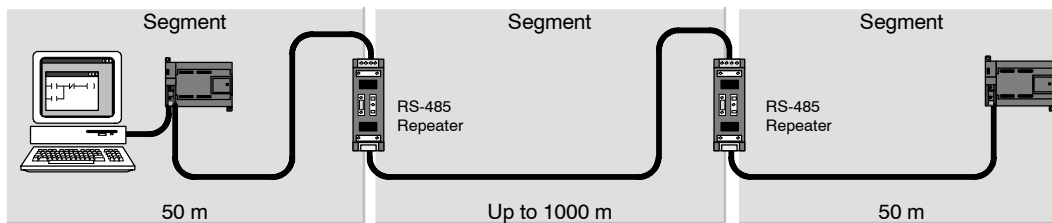

Figure 7-21 Sample Network with Repeater
- To increase the length of a network:* Adding a repeater to your network allows you to extend the network another 50 m. If you connect two repeaters with no other nodes in between (as shown in Figure 7-21), you can extend the network to the maximum cable length for the baud rate. You can use up to 9 repeaters in series on a network, but the total length of the network must not exceed 9600 m.